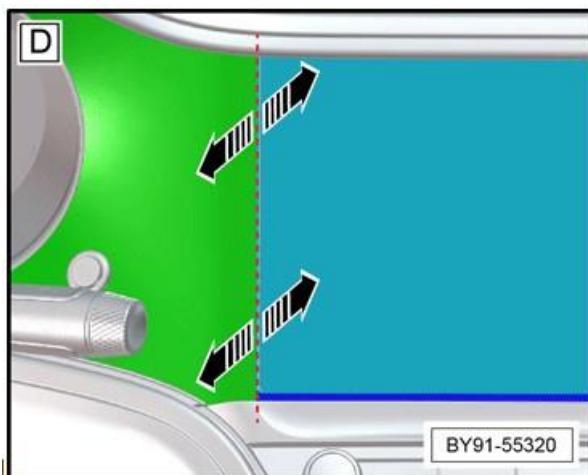

Figure 12
Measure the profile (D) between the “BRD” veneer face fascia panel and the passenger and drivers side fascia panels. See Figure 12